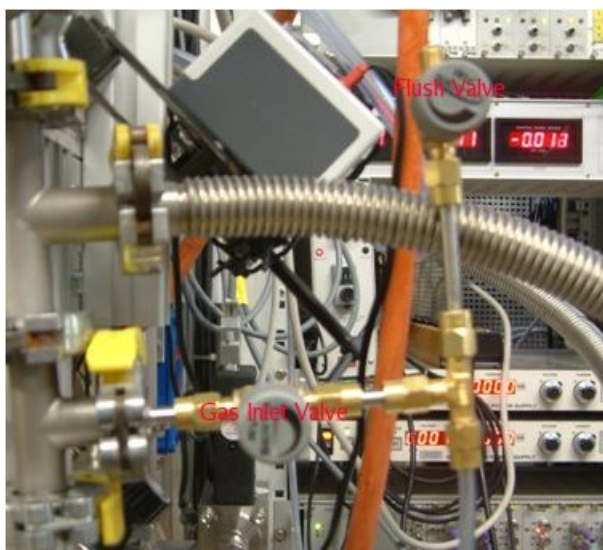

Figure 6.5: He gas inlet valves
- Open the main valve of the He-gas bottle and flush valve at least 20 s (see Fig. 6.5). Then close the flush valve and open the He-gas inlet valve.